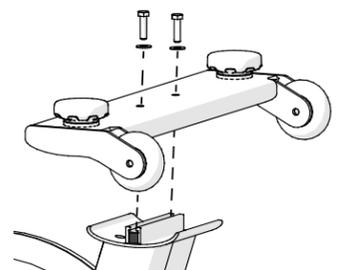

Figure 5
- Attach the front stabilizer to the frame using two bolts **1** and two flat washers **2** (Figure 5).